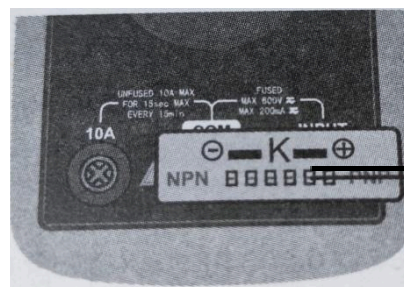

Figure 2
2. Refer to Figure 2, connect the adapter to the "COM" jack and the "INPUT" jack. Don't reverse the connection.